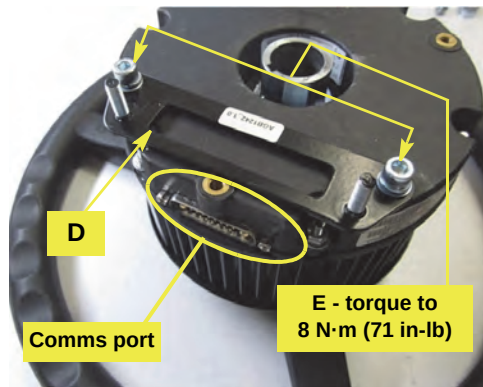

Figure 1c: Anti-rotation T-bar bracket installed
- Turn the steering wheel assembly over and set the comms port toward you. Using bolts **E**, attach anti-rotation bracket **D**, studs outward, to the steering wheel assembly, parallel to the comms port. Torque the screws to **8 N·m (71 in-lb)** (Figure 1c).